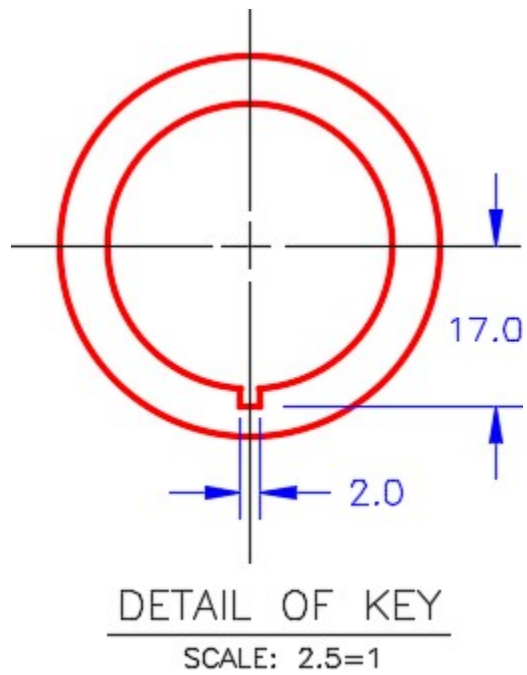

Figure Step 4
Using Figure Step 4:
- C In Paper space, on layer: Text, add the title and scale of the views. Use your own text style and text height. (Figure Step 4)